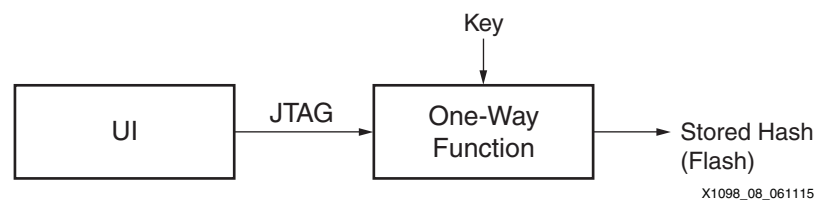

Figure 8: Encrypt the DNA Value with a Confidential Key
1. Setup: Read the UI value(s) from the FPGA via JTAG, generate a hash from the UI value(s), and store in a flash device accessible to the FPGA using a robust one-way function (a keyed type is the most secure) as shown in Figure 8.
The key for the one-way function shown in Figure 8 could be stored within the encrypted bitstream. If bitstream encryption is not used, this approach relies on the complexity of the bitstream to keep the key confidential.